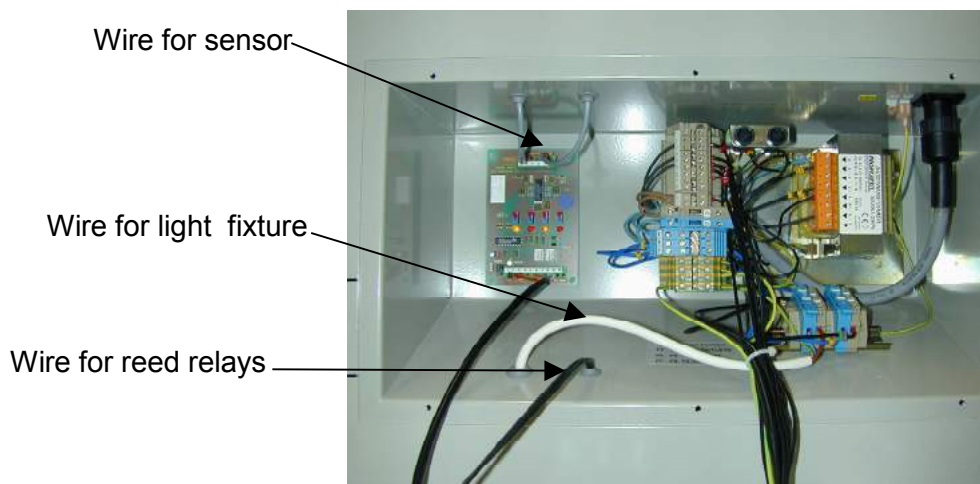

Figure 7.
2. Disconnect the wires for flow sensors, reed relays and light fixture. See figure 7.